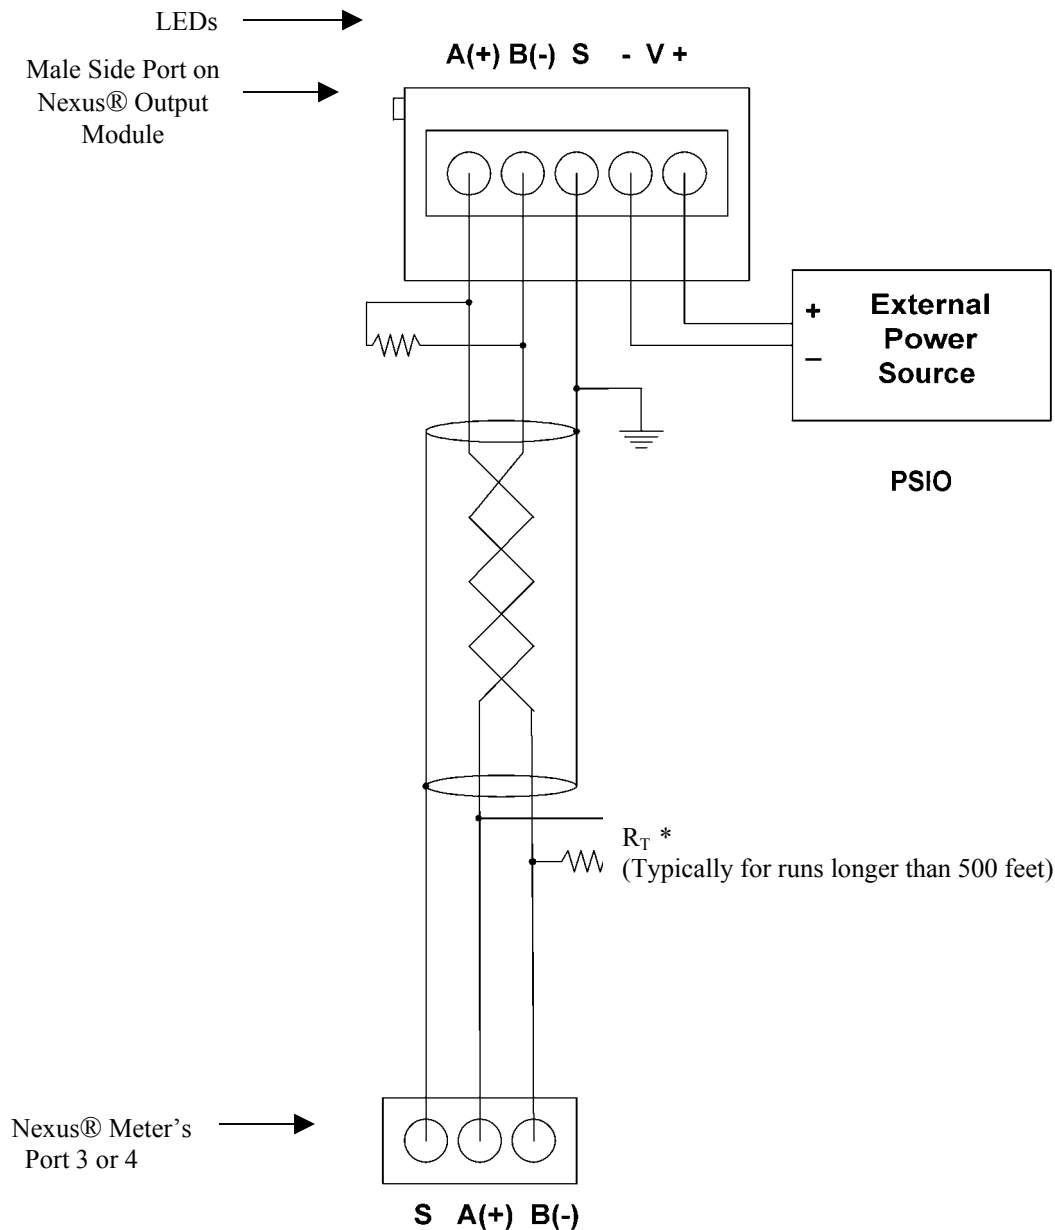

Figure 9.2: Nexus® Meter Connected to Output Module
- **Male RS485 Side Port:** use to connect to the Nexus® 1250/1252 meter's Port 3 or 4 or to another module's female RS485 side port. See Figure 9.2 for wiring details.
- Output modules must use the Nexus® 1250/1252 meter's Port 3 or 4. Six feet of RS485 cable harness is supplied. Attach one end of the cable to the port (connectors may not be supplied); insert the other end into the communication pins of the module's Male RS485 Side Port. See Figure 9.2 below. See Section 9.3 for details on using multiple Output modules.